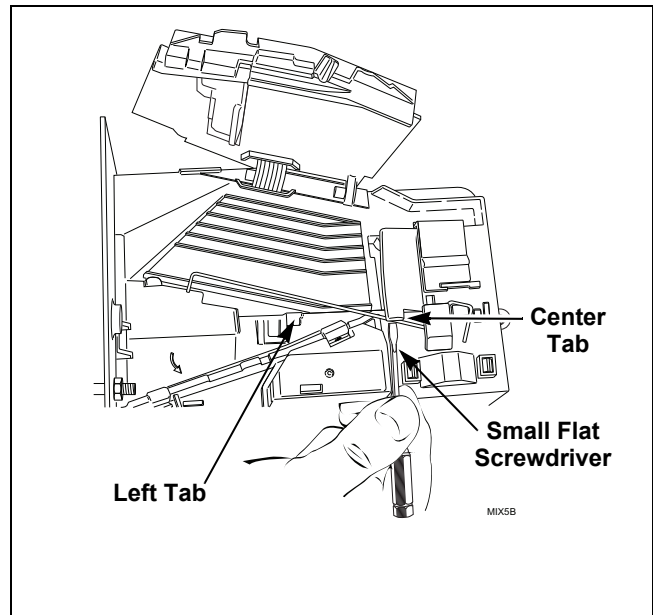

Figure 18
12. Use a small flathead screwdriver to push spring under center tab. Refer to *Figure 18*.